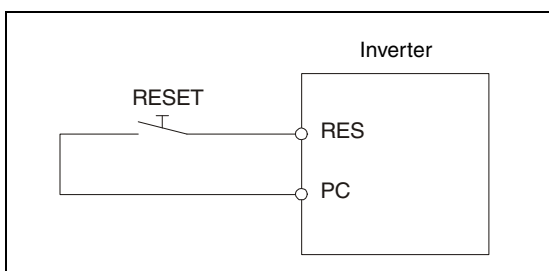

Fig. 7-3:
- Turn on the reset signal RES for more than 0.1s. (Connect the terminals RES and SD when using sink logic or terminals RES and PC as shown in Fig. 7-3 when using source logic). (If the RES signal is kept on, "Err." appears (flickers) to indicate that the inverter is in a reset status.)